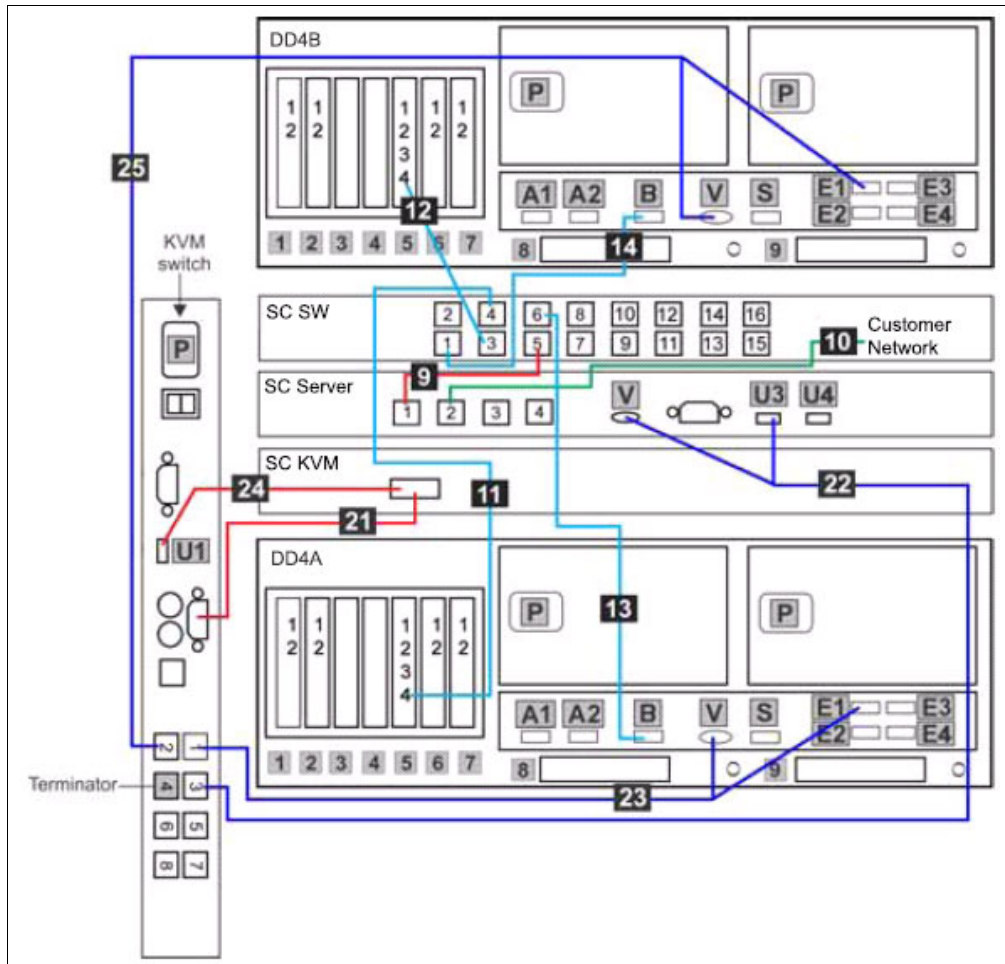

Figure 4-15 TTSSC, KVM, and customer Ethernet connections in the two-node cluster
In this section, we show the Ethernet connections between a TS7650g two-node cluster and the TS3000 System Console. The TS3000 is a one unit System x server with a one unit KVM and a network switch provided for the network connection to the 3958-DD4 server and disk array. In Figure 4-15, you can see how to connect the TSSC and both 3958-DD4 servers to the KVM switch.
**Note:** In Figure 4-15 on page 153, you can see the TS3000 and KVM switch connections in a 3958-DD4 server configured for VTL. These connections are exactly the same for a 3958-DD4 server with an OST configuration. In Table 4-7 on page 154 you can find the TSSC and KVM connections for a clustered 3958-DD4 server.